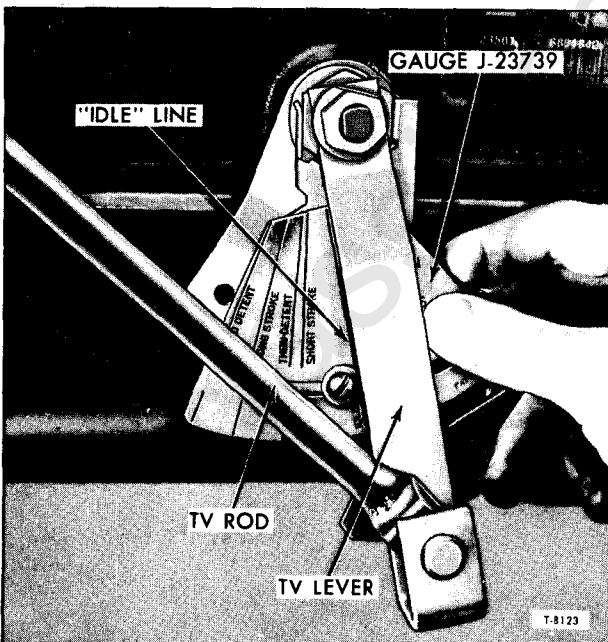
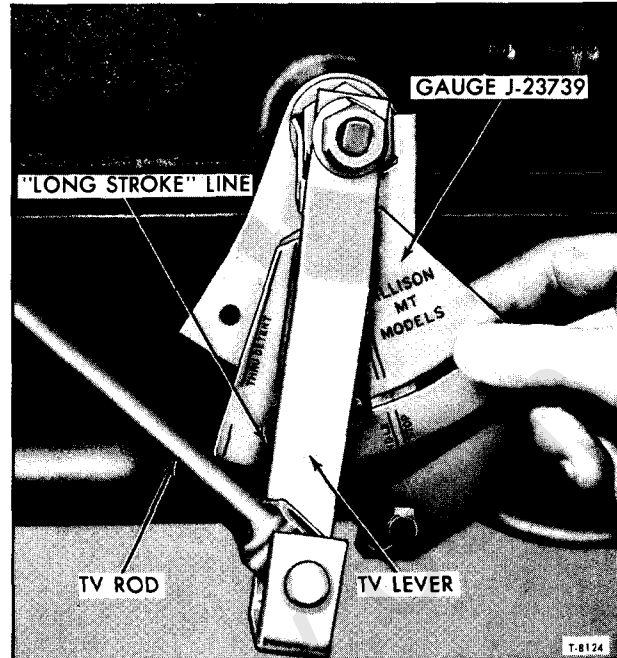

Figure 5—Position of TV Lever at Idle
Figure 6—Checking For Proper TV Linkage Adjustment at Full Throttle
14. With engine "OFF" and accelerator pedal at "IDLE" position, the forward edge of TV lever should be aligned with the "IDLE" line on gauge as shown in figure 5. Shorten or lengthen TV rod to obtain alignment with gauge by performing the following:
a. Referring to figure 5, align TV lever with "IDLE" line on gauge.
b. With 1/4-inch diameter rod (C) installed as shown, have assistant position slotted-rod (E) so upper portion of slot contacts stud (G). Secure slotted-rod (E) to TV rod (L) by tightening nut (F).
c. Recheck TV lever on transmission to be sure it is aligned with "IDLE" line on gauge (fig. 5).
d. Remove 1/4-inch diameter rod (C).
15. Have assistant depress accelerator pedal to full throttle (DETENT). Referring to figure 6, TV lever should be aligned with "LONG STROKE" line on gauge.
shown in figure 5. Shorten or lengthen TV rod (I) to obtain alignment with gauge by performing the following:
- a. Have assistant loosen retaining nut (C) holding slotted-rod (B) in position on TV rod (I).
- b. Referring to figure 5, align TV lever (G) with "IDLE" line on gauge.
- c. With accelerator linkage at "IDLE" position, have assistant position slotted-rod (B) so upper portion of slot contacts stud (L). Secure slotted-rod (B) to TV rod (I) by tightening nut (C). Recheck TV lever (G) on transmission to be sure it is aligned with "IDLE" line on gauge (fig. 5).
15. Have assistant depress accelerator pedal to full throttle (DETENT - just touching detent button). Referring to figure 6, TV lever should be aligned with "LONG STROKE" line on gauge.
6. Hold TV lever (L) full counterclockwise against the transmission internal stop. Align the "STOP" line on gauge with forward edge of TV lever. If necessary, reposition gauge on manual selector nut to obtain alignment. Use a mirror if unable to view directly.
7. Move TV lever full clockwise as shown in figure 6. TV lever (L) should be aligned with "LONG STROKE" line on gauge. This step is a check to be sure no internal condition exists in transmission that would prevent full movement of the TV lever. Correct any internal transmission condition, if necessary, before proceeding.
10. Have assistant depress accelerator pedal to full throttle position. Referring to figure 6, TV lever should be aligned with "LONG STROKE" line on gauge.
7. Hold TV lever (E) full counterclockwise against the transmission internal stop. Align the "STOP" line on gauge with forward edge of TV lever. If necessary, reposition gauge on manual selector nut to obtain alignment. Use a mirror if unable to view directly.
8. Move TV lever full clockwise as shown in figure 6. TV lever (E) should be aligned with "LONG STROKE" line on gauge. This step is a check to be sure no internal condition exists in transmission that would prevent full movement of the TV lever. Correct any internal transmission condition, if necessary, before proceeding.